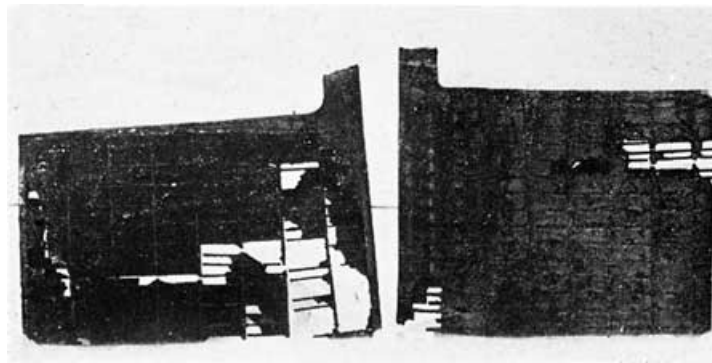

Fig. 206. Weak and Cracked Positives
2. If the battery is more than two years old, and the active material on the negative plates is granulated (grainy appearance), Figs. 204 and 205, and somewhat disintegrated; if the plates are weak and brittle around the edges, and several grids are cracked, Fig. 206, and the plates have lost a considerable amount of active material; and if the case has been rotted by the acid, the battery should be junked.